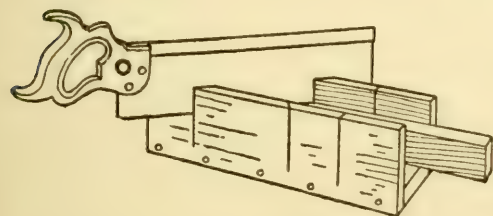

FIG. 59. — Home-made Miter-box.
**A Home-made Miter-box** such as the average carpenter makes for his own use (Fig. 59). This box may be made of pine. Cut the bottom piece 4 inches wide and 14 inches long out of a 1 $\frac{1}{4}$ -inch board, and the sides 5 inches wide and 14 inches long out of 1-inch